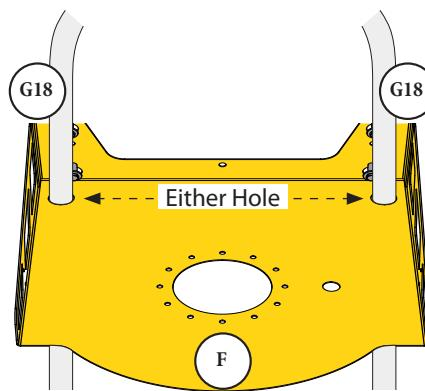

FIG. 23
- 23** Take the Tubing Assembly (G18) and route it through the closest retaining hole located in the back corner of the Wall Bracket (F) [FIG. 23].